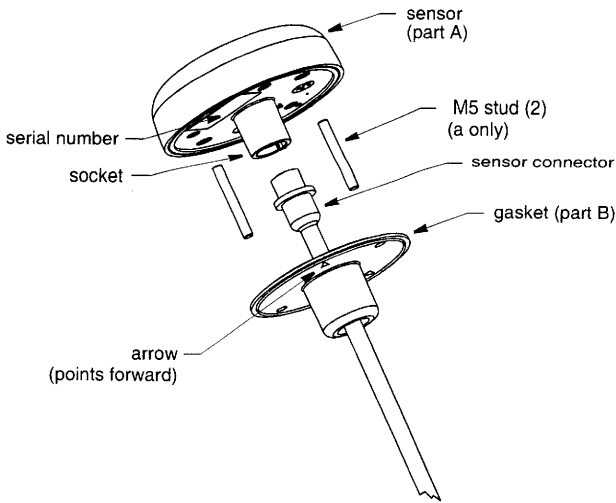

Figure 2. Preparing the sensor
1. Remove the label from over the sensor's socket (part A) (see Figure 2).